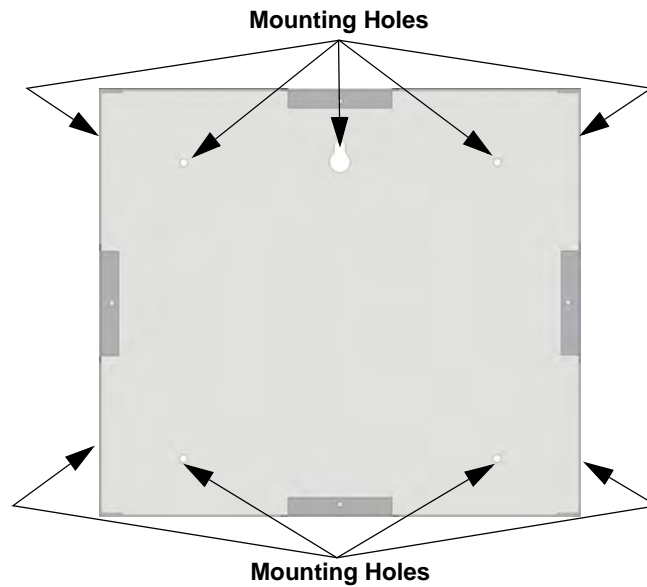

Figure 4.16 Back Box Mounting Holes
1. The back box dimensions are 9 $\frac{1}{4}$ " W x 8 $\frac{3}{8}$ " H. The minimum depth required is 2". The back box can be mounted prior to the complete installation of the TR-RD2G/R using any of the mounting holes shown in Figure 4.16.